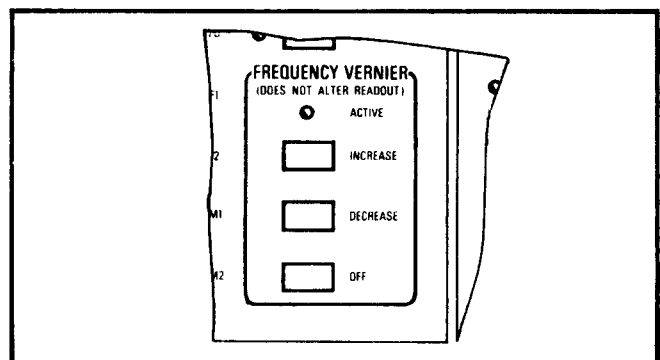

Figure 3-12. FREQUENCY VERNIER Controls
c. FREQUENCY VERNIER Pushbuttons (Figure 3-12). These pushbuttons may be used to make fine adjustments to (1) output frequency in the selected CW mode or (2) center frequency in the selected  $\Delta F$  mode. The frequency resolution achievable using these pushbuttons is  $\pm 100$  kHz. Individual pushbuttons are described below.